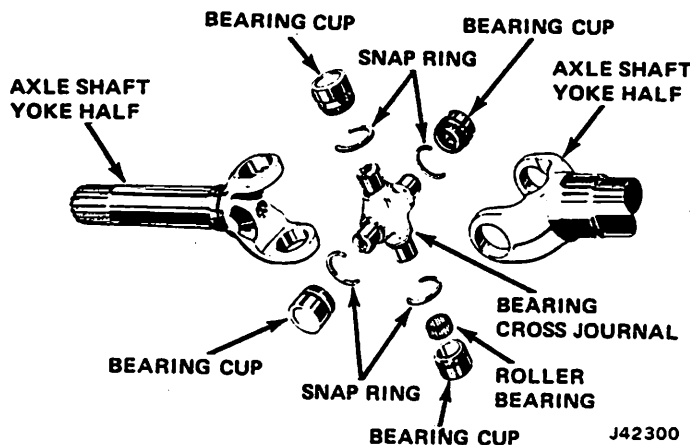

Fig. 2F-5 Axle Shaft Universal Joint
- (2) Remove disc brake caliper. Refer to Chapter 2G.
- (3) On models without front hubs:
- (4) On models with front hubs:
- (5) Remove outer locknut, washer, and inner locknut using Tool J-6893.
- (6) Remove rotor. Spring retainer and outer bearing are removed with rotor.
- (7) Remove nuts and bolts attaching spindle and support shield and remove spindle and shield. If necessary, tap spindle with rawhide mallet to remove it from knuckle (fig. 2F-5).
- (8) Remove axle shaft.